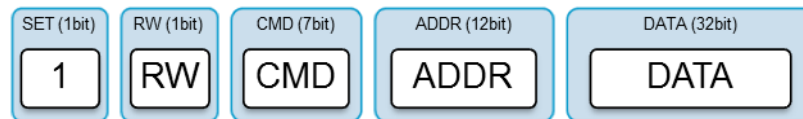

Figure 6. SACL parallel output word bit definition.
- 52 bits word as shown in Figure 6 (set bit, notRead/Write bit, 7bits command, 12 bits address, 32bits data bus);